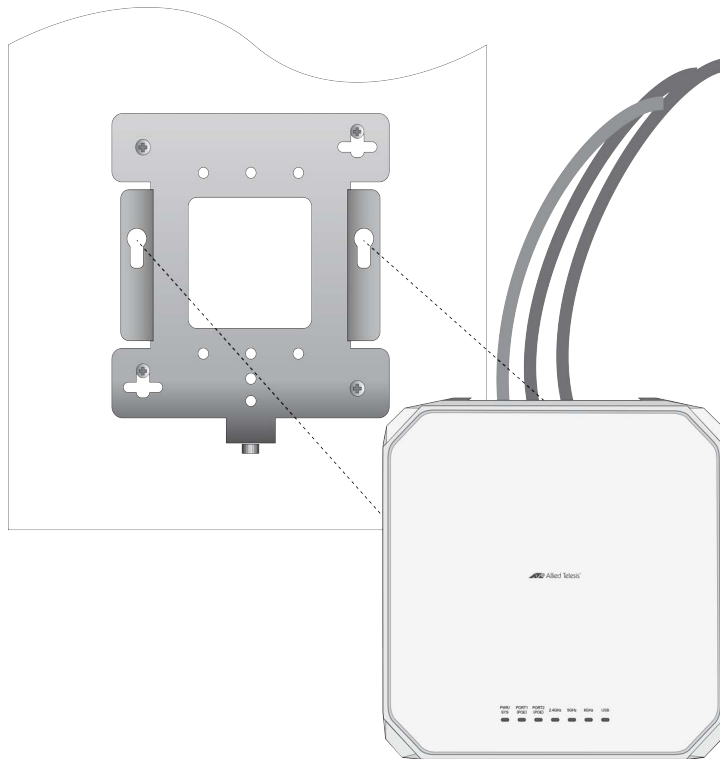

Figure 22. Installing the Access Point on the Mounting Bracket
1. Align the bottom of the access point over the bracket so that the two screws on the bottom of the device fit into the bracket keyholes. Refer to Figure 22. (These are the two access point chassis screws installed in “Pre-fitting the Mounting Bracket on the Access Point” on page 30.)